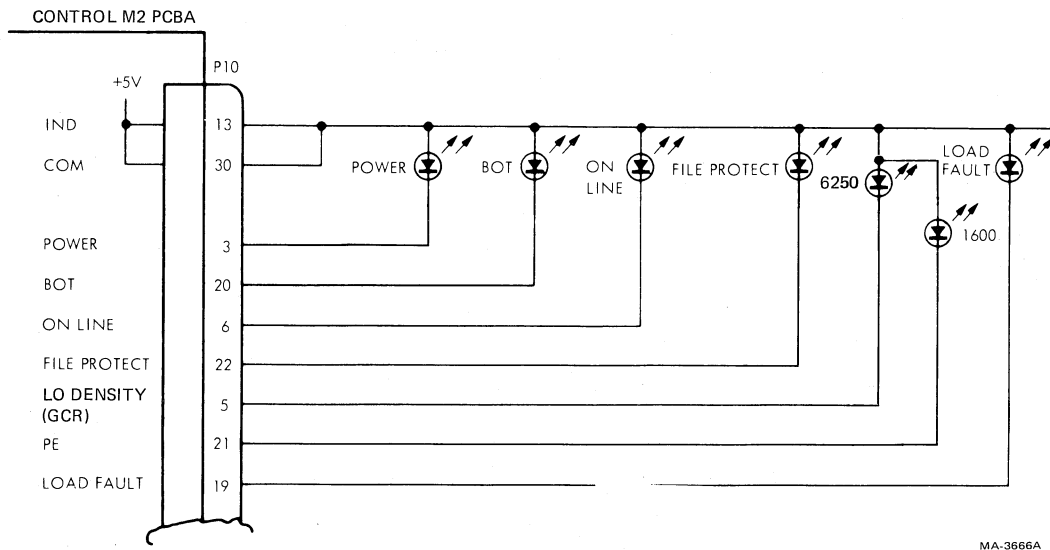

Figure 5-19 Front Panel Indicator Connections
Panel LED indicators include power, bot (beginning of tape), online, file protect, load fault, 6250, and 1600. All indicators are connected to system circuitry through connector P10, which is mounted on the control M2 PCBA (Figure 5-19). The bot indicator lights to indicate that the BOT marker has been sensed and the tape is in the beginning-of-tape position. On-line indicates that the transport has been switched to the host system. (It is not an active part of the host system, however, until selected by the system and the transport is in ready status.) File protect (FPT) lights to indicate that the write enable ring is not in place and the file is protected against writing. When illuminated, the Load fault (LDF) indicator cautions the operator that the tape failed to load. The 6250 indicator is illuminated when the system is set for high density (GCR) operation; the 1600 indicator lights when the system is set for low density (PE) operation.